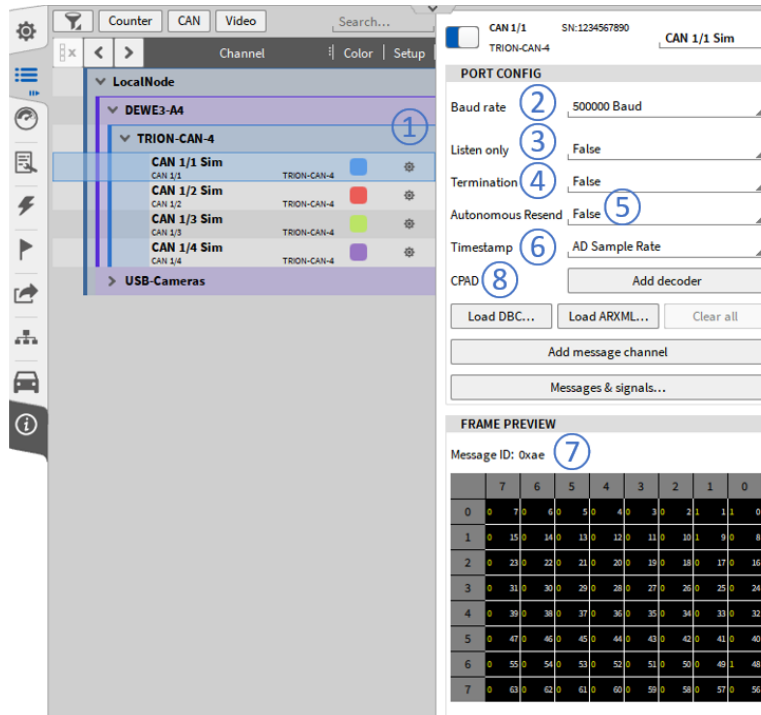

Fig. 7.202: CAN port configuration
To configure the CAN port properly, go to the Channel List and open the CAN port configuration of the dedicated CAN port by pressing the Gear button (see ① in Fig. 7.202).
- Baud rate (see ② in Fig. 7.202):
- Listen only (see ③ in Fig. 7.202):
- Termination (see ④ in Fig. 7.202):
- Autonomous Resend (see ⑤ in Fig. 7.202):
- Timestamp (see ⑥ in Fig. 7.202): Sets the time base on which the CAN signals are aligned.
The frame preview (see ⑦ in Fig. 7.202) will show a preview of the received messages if all settings (especially Baud rate and Termination) are set correctly and data is available on the CAN port.
CPAD (see ⑧ in Fig. 7.202): If a module of the CPAD series is connected to the CAN bus, a CPAD decoder can be added for decoding their messages and signals without the need for a proper dbc-file. For more information, refer to Using XRs / CPADs with OXYGEN.